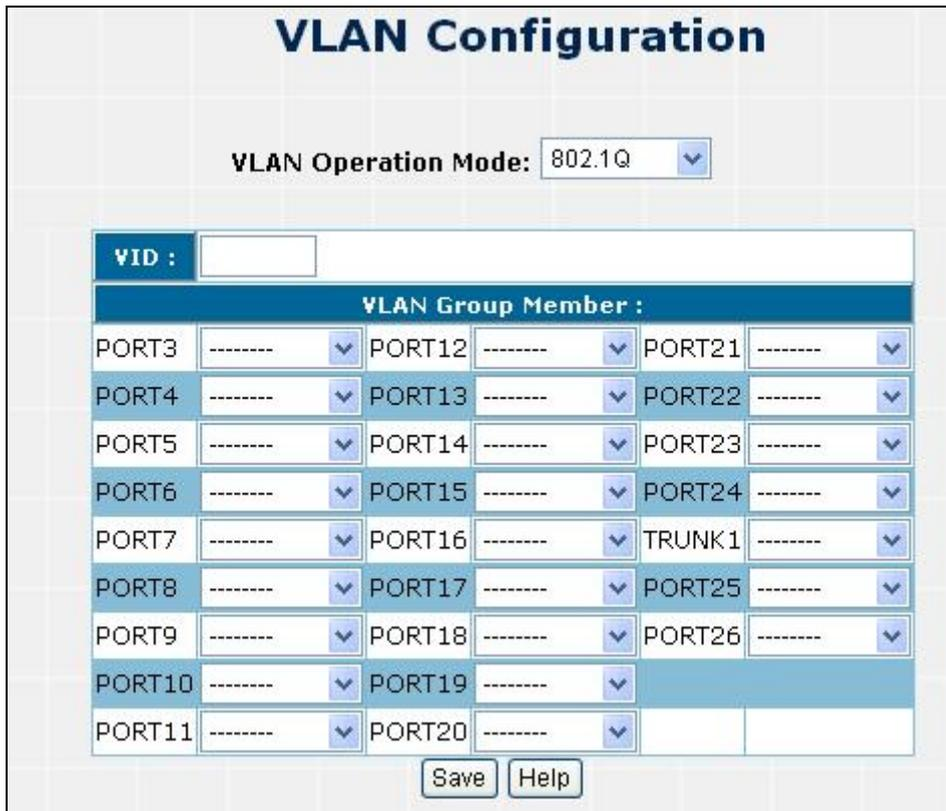

Figure 4-3-4 802.1Q VLAN Setting Web Page screen
5. Select specific port as member port and the screen in Figure 4-3-4 appears.